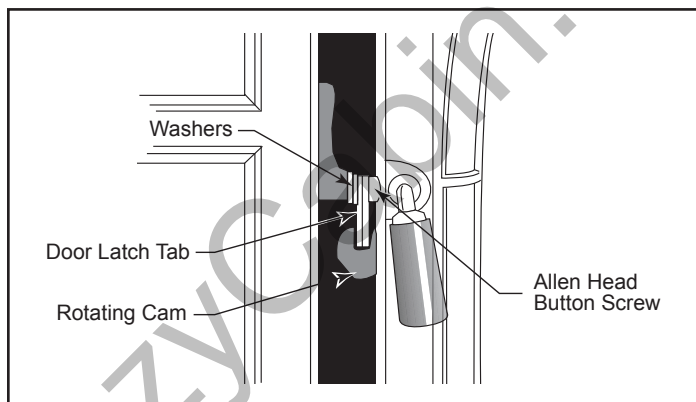

Figure 20 - The front door seal can be adjusted simply by adding or removing washers.
- Remove the Allen head button screw that attaches the door latch tab to the stove front. (Figure 20)